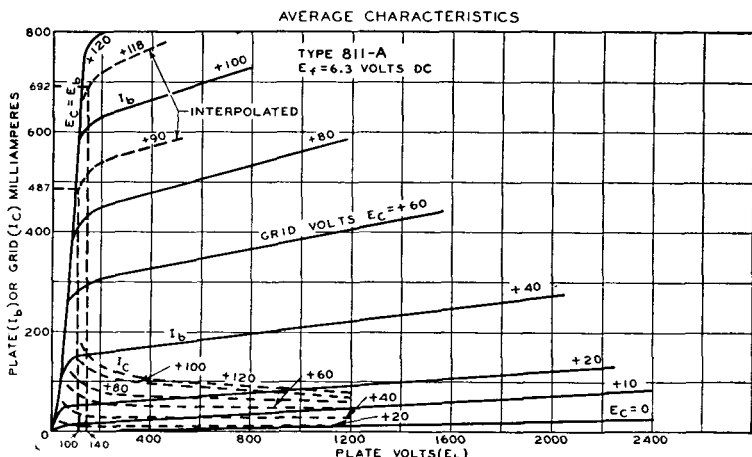

Fig. 45
(1) From the published data for the 812-A, the maximum plate-input rating is 260 watts. The dc plate current ( $I_b$ ) required to provide this input at a plate voltage, ( $E_b$ ) of 1500 volts is  $I_b = 260/1500 = 0.173$  ampere, or 173 milliamperes.
(2) From Table I,  $K_1$  for a conduction angle of 140 degrees is 4. Therefore, peak plate current ( $i_{b_{max}} = 0.173 \times 4.00 = 0.692$  ampere, or 692 milliamperes.
(3) The average characteristics curves given in Fig. 45 show that a peak plate current of 692 milliamperes is obtained at a peak positive grid voltage ( $e_{c_{max}}$ ) of 118 volts and an effective minimum plate voltage ( $e_{b_{min}}$ ) of 140 volts.
(4) From Table I,  $K_2$  for a conduction angle of 140 degrees is 0.862. Therefore, power output ( $P_o = 0.862 \times (1500 - 140) \times 0.173 = 203$  watts (approx.).
(5) Plate dissipation ( $P_p = (1500 \times 0.173) - 203 = 57$  watts (approx.).
(8) From the average characteristics curves shown in Fig. 45, for  $e_{cmax}$  of +118 volts and  $e_{bmin}$  of 140 volts, peak grid current ( $i_{cmax}$ ) = 195 milliamperes (approx.).
(3) From the average plate characteristics curves shown in Fig. 45, for  $i_{bmax} = 487$  milliamperes, the peak positive grid voltage ( $e_{cmax}$ ) = +90 volts (approx.) and the effective minimum plate voltage ( $e_{bmin}$ ) = 100 volts.
(4) Power output for two tubes ( $P_o$ ) =  $157 \times (1500-100) \times 0.155 = 340$  watts (approx.).
(5) Plate dissipation per tube ( $P_p$ ) =  $(1500 \times 0.155) - 340/2 = 62.5$  watts. This value is within the maximum rating for the 812-A (65 watts).
(6) For one-third maximum rated dissipation, zero-signal dc plate current per tube ( $I_{b0}$ ) =  $65/(3 \times 1500) = 0.0145$  ampere = 14.5 milliamperes.